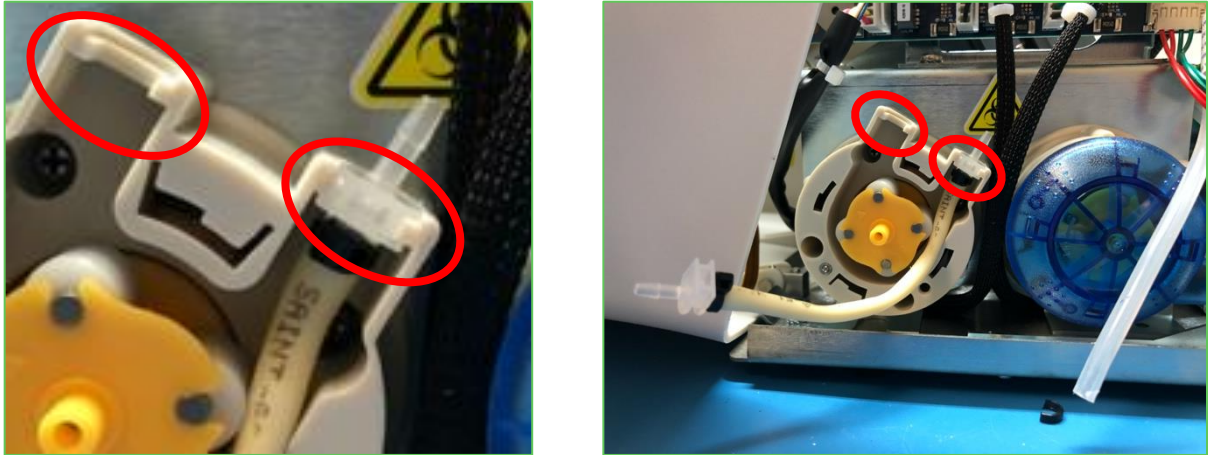

Figure 10
22. Starting on the right side of the wash pump, insert the connector of one end of the new tubing into the slot on the pump. See Figure 10 for correct placement of the right side tubing). Slowly work the tubing in the pump, rotating the rollers as needed by hand. Once the tubing is in place, insert the connector of the other end of the tubing into the left slot of the pump. (See Figure 10 for correct placement of the left side tubing).